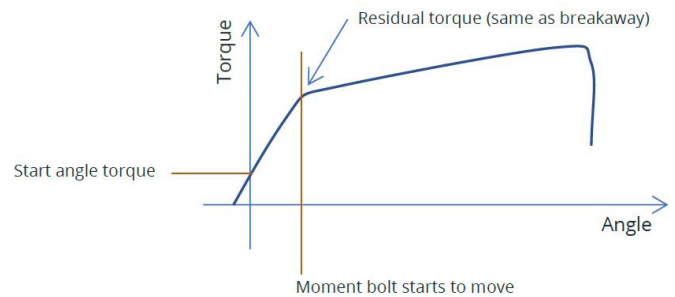
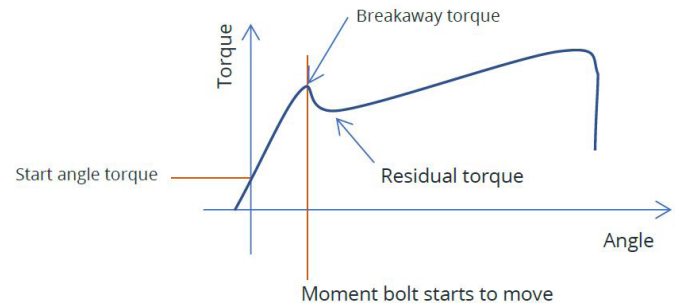

Figure 27 – Case 1, clean breakaway
Figure 28 – Case 2, Breakaway with Peak
When a screw is rotated further, the torque x angle graph can assume two forms. In the first case, there's a clean transition from the moment the bolt is static to when it starts to move. This transition is marked by a change of gradient as pictured in Figure 27 – Case 1, Clean Breakaway. In this case, the breakaway torque and the residual torque are the same.
In the second case, due to high friction in the bolt head, conical seats, and other factors, a torque peak may be present in the transition moment. This peak is the breakaway torque and is normally not considered as the residual torque. The residual torque is taken as the lower value that follows the breakaway as pictured in Figure 28 – Case 2, Breakaway with Peak.
the residual torque as shown in Figure 27 and Figure 28, ignoring the breakaway peak if present.
- Breakaway torque:** The wrench will always collect the breakaway torque as shown in Figure 27 and Figure 28.